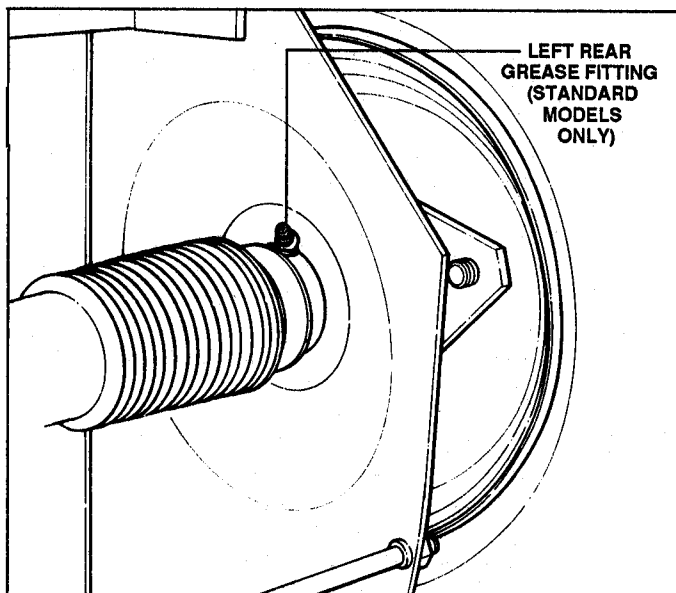

FIGURE 1.3
- C. **REAR LEFT AXLE BEARING:** (Std. models) Lubricate through fitting with 2 shots of bearing grease from a pressure gun. Right hand bearing is lubricated by transmission. See Figure 1.3.